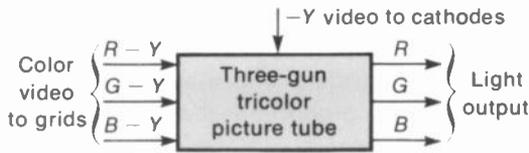

FIGURE 8-12 PICTURE TUBE AS A MATRIX THAT COMBINES Y SIGNAL WITH COLOR-DIFFERENCE VOLTAGES TO PRODUCE RED, GREEN, AND BLUE.
**The picture tube as a matrix.** When the receiver uses  $B - Y$ ,  $R - Y$ , and  $G - Y$  video signals, the picture tube can serve as the matrix to produce the primary colors. As shown in Fig. 8-12, the Y signal is coupled to the cathode for all three guns. Actually  $-Y$  signal is used because this polarity at the cathode cancels the  $-Y$  component of the color voltages at each control grid. The results are the same as adding the components algebraically. For red ( $R$ ), as an example,